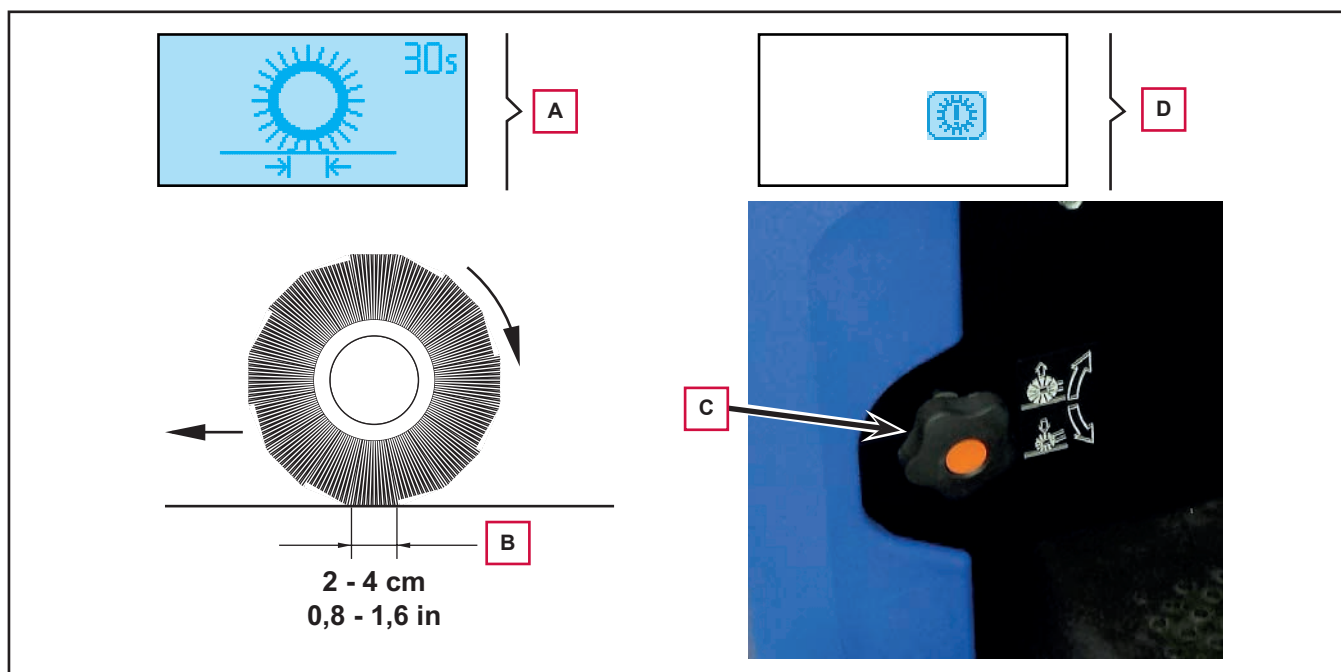

Figure 4
- Rotate the broom by pressing the One-Touch push-button again and holding for at least 3 seconds: the broom will activate for 30 seconds, which is shown on the display (A, Figure 4).
- Check that the main broom print (B), along its length, is 2 to 4 cm wide.
- If the print (B) is not within specifications, adjust the main broom height according to the following procedure.
2. Turn the knob (C), bearing in mind that: